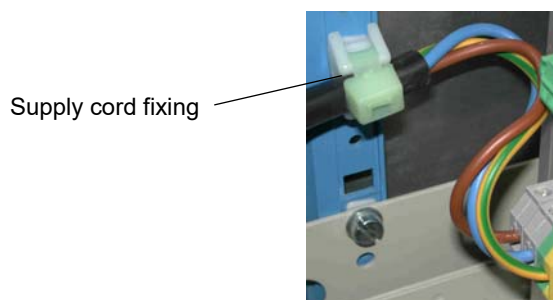

Figure 8-1: Main supply cord fixing
Both natural and forced ventilation require the free flow of air in an upward direction, with air entering the rack through the vents (holes) in the base of the rack and leaving it through the vents on the top. See Figure 8-1.
When a rack is installed in a cabinet or enclosure, a space of at least 50 mm should be present below and above each rack. This is required for both natural and forced ventilation. See **Figure 8-1, Case A and Case B**.
Airflow deflectors (a specific type of inclined plate) must always be installed between VM600 racks in order to help optimise cooling. With airflow deflectors, cooler air enters from the front and exits to the rear (that is, they prevent warm air from simply rising naturally from one rack to the rack above). In this way, all racks and other electronic/electrical equipment in a cabinet receive the same cooling air – resulting in more optimised cooling. This is required for both natural and forced ventilation. See **Figure 8-1, Case A and Case B**.
When airflow deflectors and/or forced ventilation (forced-air cooling) with fan trays are used, the deflectors and fans must be placed as shown in **Figure 8-1, Case A and Case B**.
- The non-detachable DC-mains supply cord has to be mounted using a handler as shown in Figure 8-1.